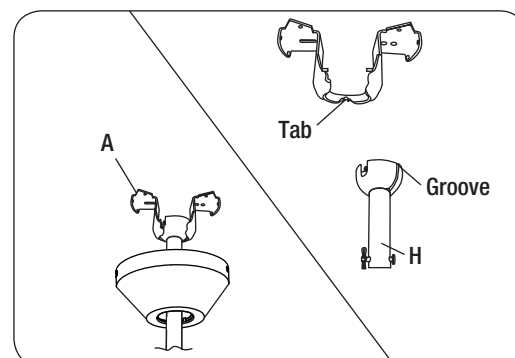

Figure 9
- Before making the electrical connections, carefully lift the fan assembly up to the mounting bracket (A).
- If using close-to-ceiling mounting, hang the fan on the mounting bracket (A) hook by utilizing one of the holes at the outer rim of the canopy (B).
- If using standard mounting, seat the downrod assembly (H) hanger ball in the mounting bracket (A) socket. Ensure the groove in the downrod assembly (H) hanger ball is properly seated in the tab of the mounting bracket (A) socket. (Figure 9)